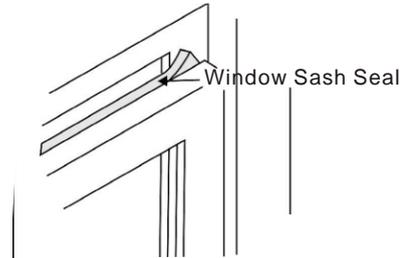

Fig.18
- Trim sash seal to fit window width. Insert into space between upper and lower sashes (Fig.18).